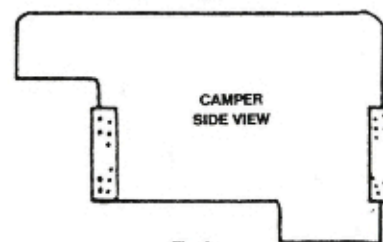

Fig. 1
1. Assemble the 2 Pc. bracket together using the 3/8" bolts and the push nuts furnished. Use this as a template to mark each corner. Mount the brackets on the four outside corners, starting with the two front brackets. Mount the top of the rear brackets at the same height as the front brackets. (See Fig. 1)